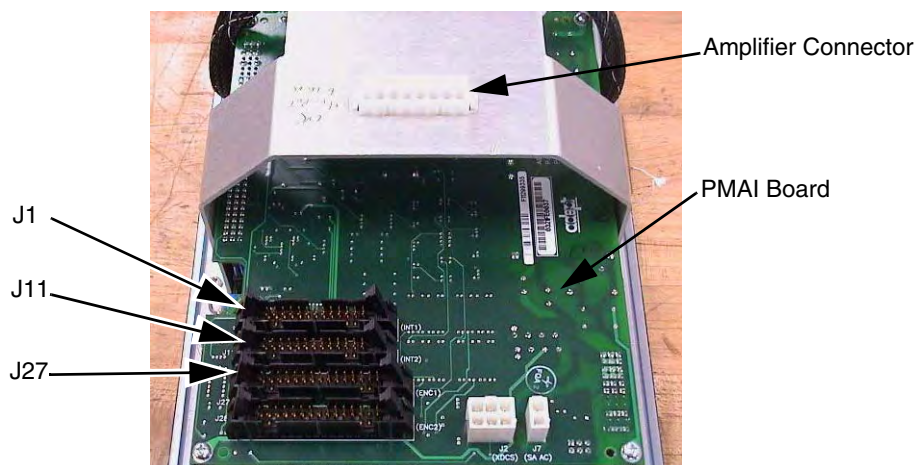

Figure 7-4. Connectors on AIB Chassis
11. Disconnect the “white” amplifier cable from the amplifier connector located on the chassis bracket. See Figure 7-4.